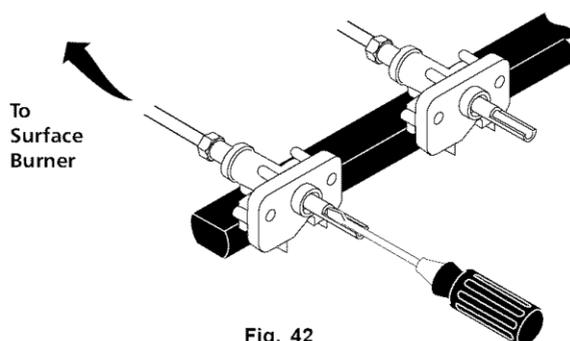

Fig. 42
5. Insert a thin-bladed screwdriver into the hollow valve stem and engage the slotted screw inside (See Fig. 42). Flame size can be increased or decreased with the turn of the screw. Turn counterclockwise to increase flame size. Turn clockwise to decrease flame size.